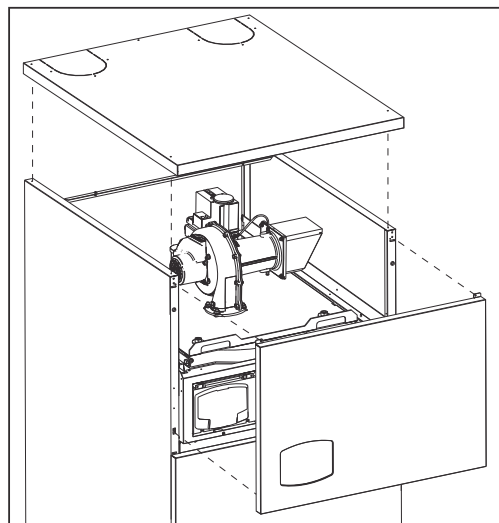

fig. 68
1. Remove the upper front panel and the cover (fig. 68).